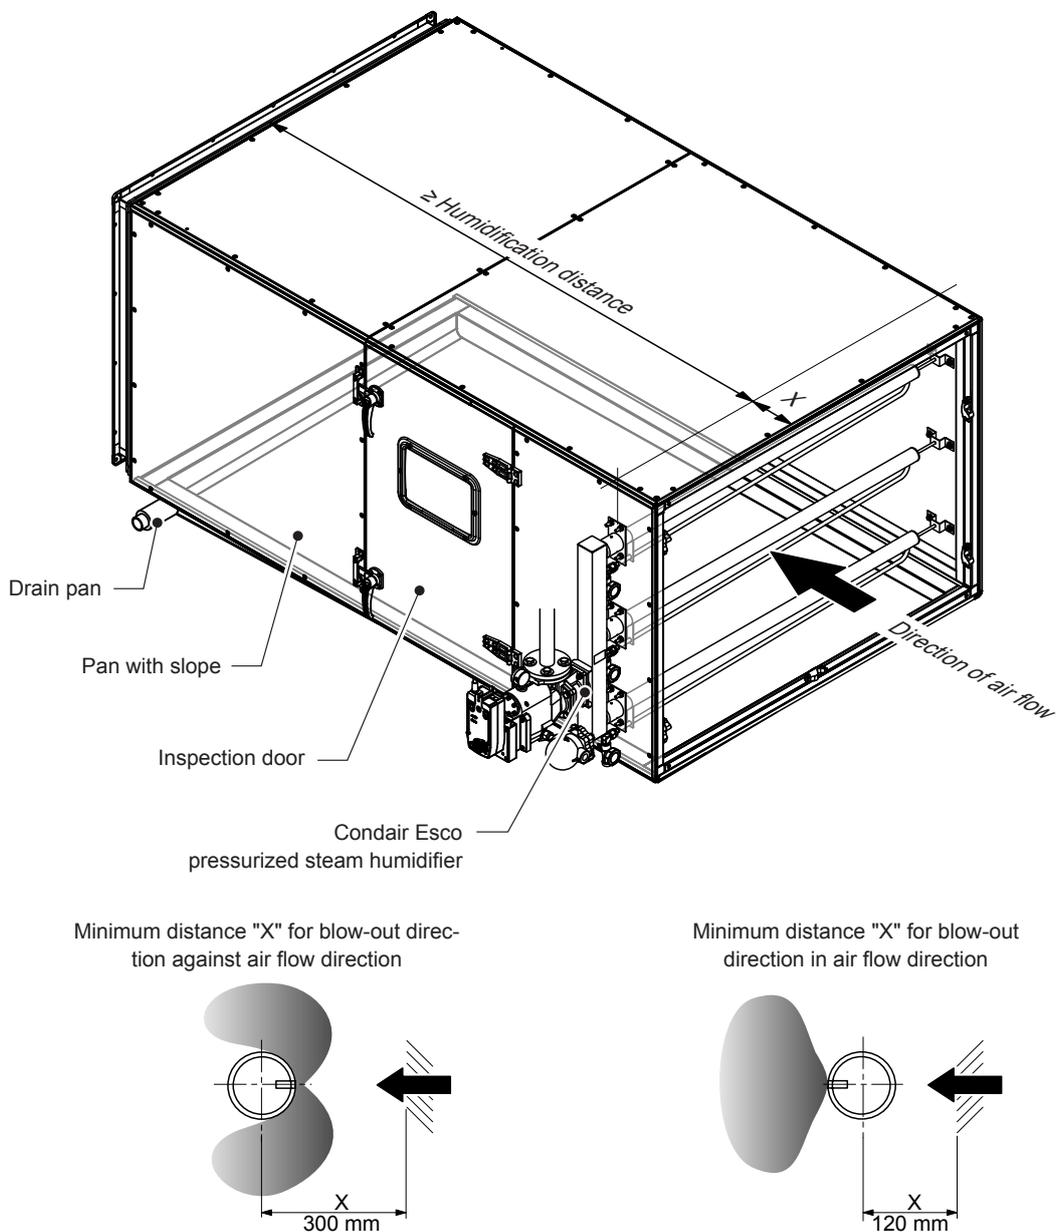

Fig. 27: Air duct/air handling unit with DL40: Distances to upstream and downstream obstacles
- Distance to upstream obstacles for DL40 at least dimension "X" (see Fig. 27).